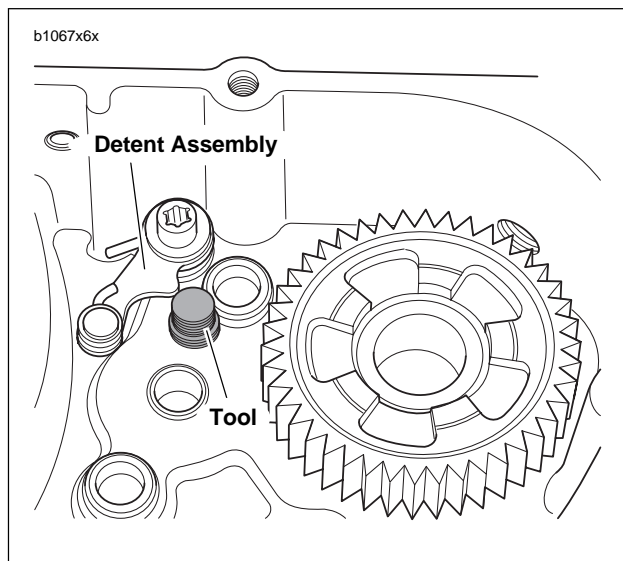

Figure 6-85. Gear Detent Assembly Aid (Part No. B-45520)
2. See Figure 6-85. Retract detent assembly in right case half and install GEAR DETENT ASSEMBLY AID (Part No. B-45520) until it has bottomed in right case half.